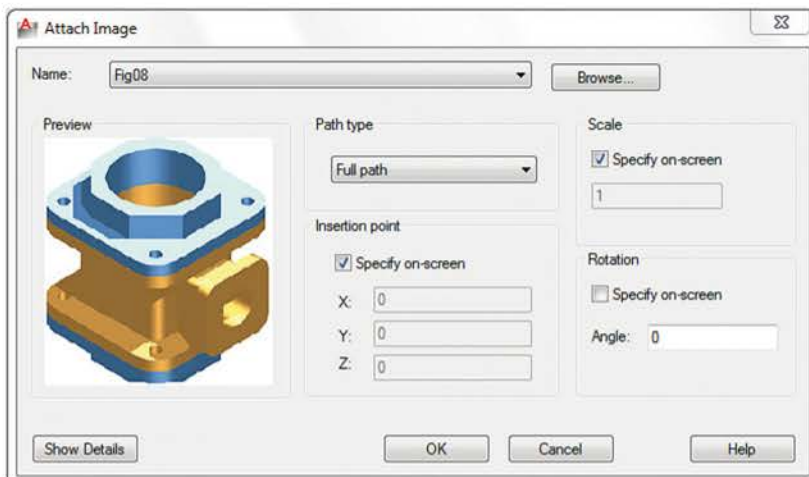

Fig. 14.10 The Attach Image dialog
2. Click the **Open** button of the dialog. The **Attach Image** dialog appears (Fig. 14.10) showing a preview of the bitmap image.